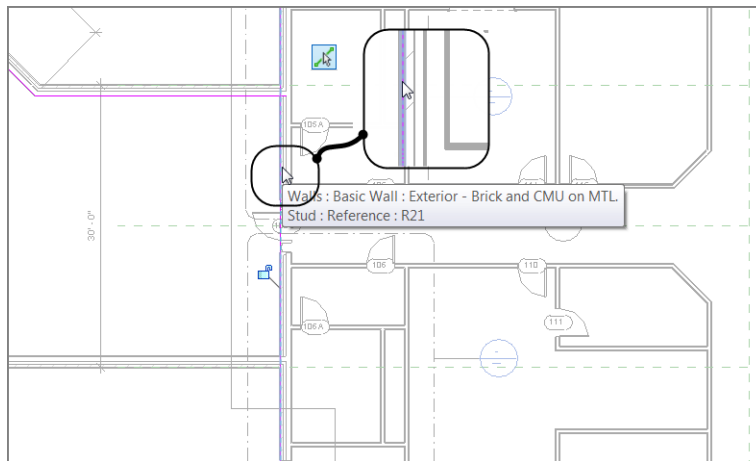

FIGURE 6.14 : Picking the face of the east wall. The line will run past the corridor. That's OK; you'll trim it in a moment.
7. Pick the face of the east wall, as shown in Figure 6.14.